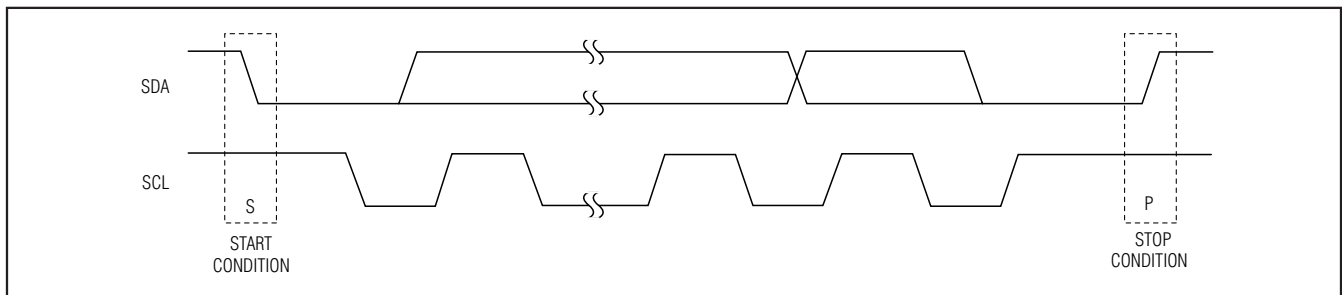

Figure 4. START and STOP Conditions
Both SCL and SDA remain high when the interface is not busy. A master signals the beginning of a transmission with a START (S) condition by transitioning SDA from high to low while SCL is high (Figure 4). When the master has finished communicating with the slave, it issues a STOP (P) condition by transitioning SDA from low to high while SCL is high. The bus is then free for another transmission.